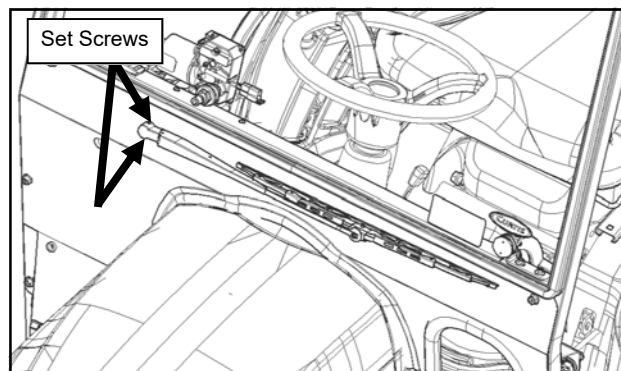

Fig. 22.3 (Wiper Arm and Blade)
22.3 Install the wiper arm onto the wiper motor so that the wiper is horizontal. See Figure 22.3. Tighten the Allen Screws.